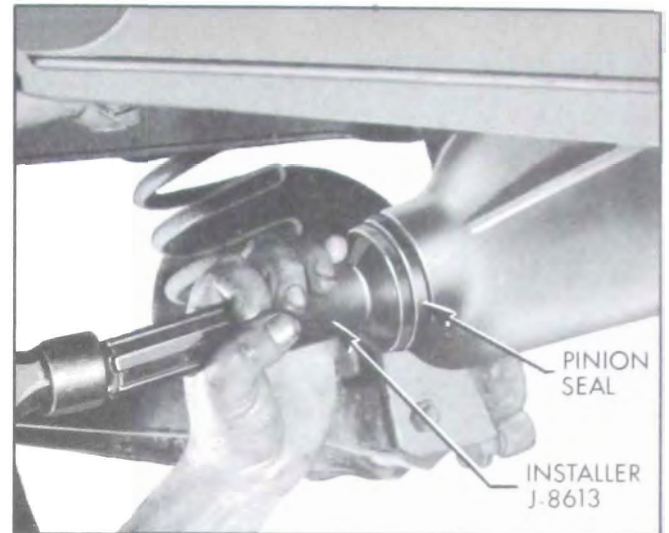

Figure 6-26—Installing Pinion Oil Seal
3. Install new O-ring seal on pinion. Coat OD of new pinion oil seal with sealing compound and install seal using Installer J-8613. See Figure 6-26.